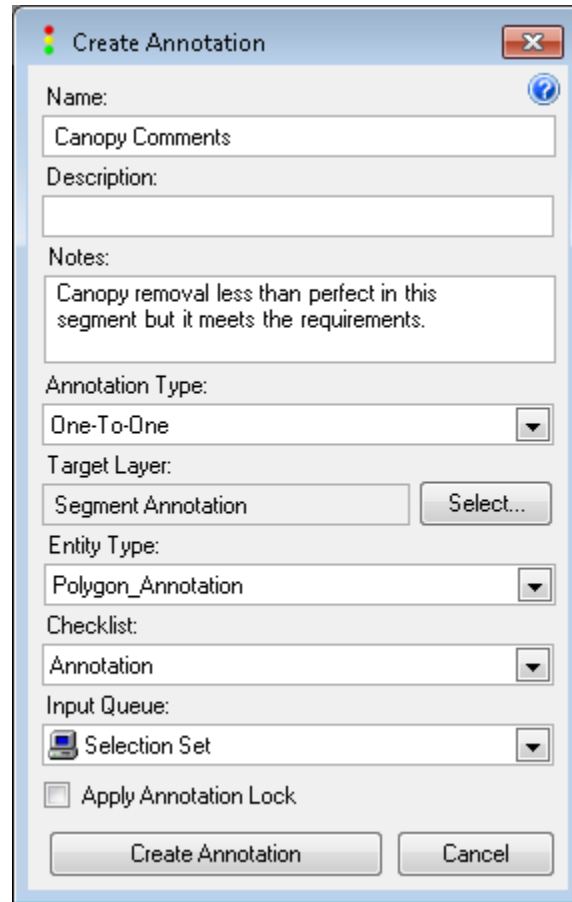

Figure 22-3 The populated Create Annotations dialog
- Click OK on the **Create Layer** dialog and on the **Select Layer** dialog to return to the **Create Annotation** dialog. Leave the Checklist set to *Annotation*. It will now appear populated with the layer you just created (Figure 22-3).